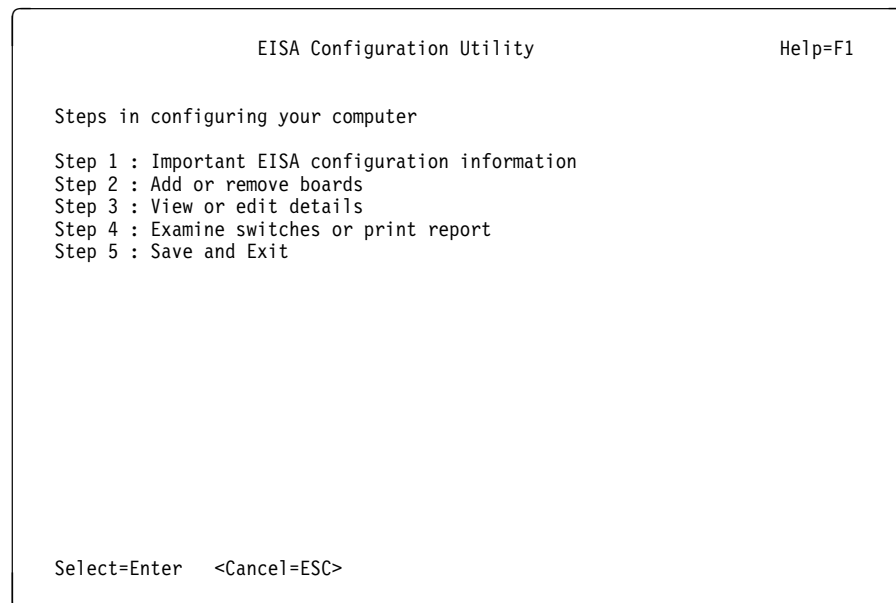

Figure 3. EISA Configuration Utility - Steps
3. The welcome panel will appear. Press Enter to continue. A panel similar to the one in Figure 3 will then appear.